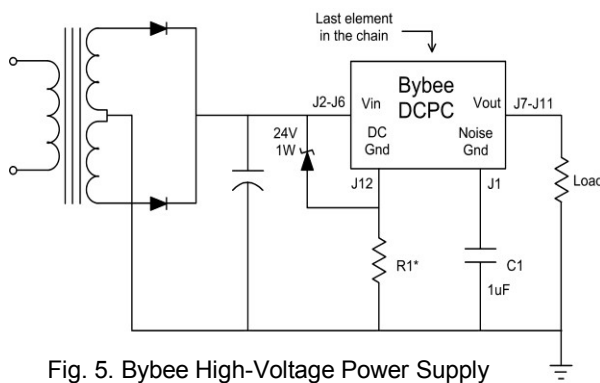

Fig. 5. Bybee High-Voltage Power Supply
In Fig. 2 (above), a MUSIC RAIL module is inserted between the raw power supply and the active circuit. The module now interfaces direct with the active circuit. Signals from circuit stages that share common power supply rails are bypassed by the wideband, low impedance of the MUSIC RAIL. The DC current coming out of the raw supply is at the same time highly filtered by the Module. This dual effect improves the definition of both audio and video signals. The MUSIC RAIL operates safely up to 30V and is adaptable to high-voltage power supplies by the addition of three external parts. See Fig. 5 (below) for high-voltage schematic and page 3 for R1 derating chart.
¹ See Fig. 5, below.
5. A schematic showing value(s) of R1 (Fig. 5).